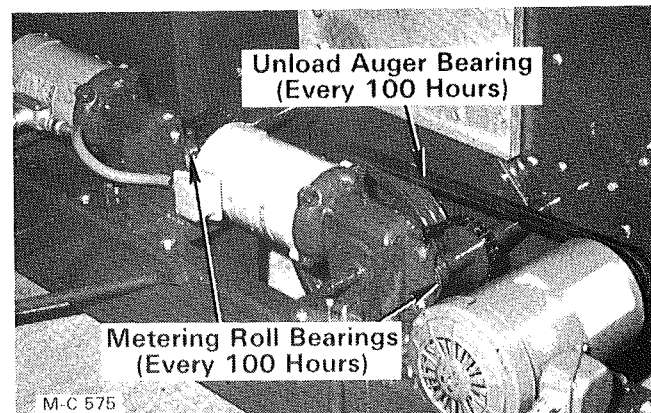

Figure 32
3. Lubricate the unloading auger front bearing and the front bearing on each grain metering roll, see Figure 32.